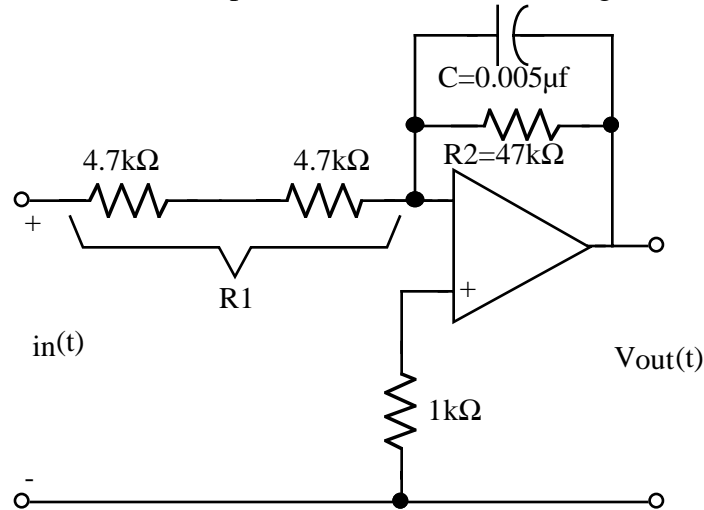

Figure 9. First Order Active low pass filter.
1. Build the active first order low pass filter circuit shown in Figure 9.